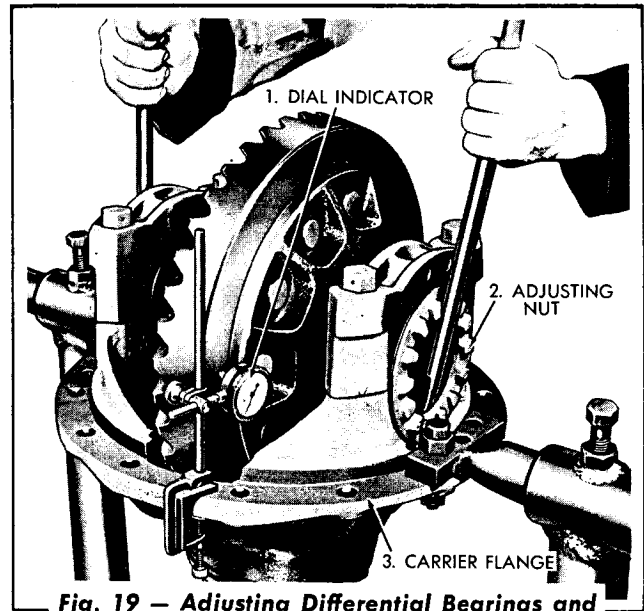

Fig. 19 – Adjusting Differential Bearings and Checking Run-Out of Ring Gear
1. Install a dial indicator on the back face of the hypoid gear. Loosen the end bearing adjusting nut (located on the opposite side of the hypoid gear) just enough to permit some end play as noted on the indicator. Then by tightening the end bearing adjusting nuts, adjust for .000" end play (Fig. 19).
2. With the dial indicator still in position, check the run-out of the hypoid gear (Fig. 19). Run-out should not exceed .008".